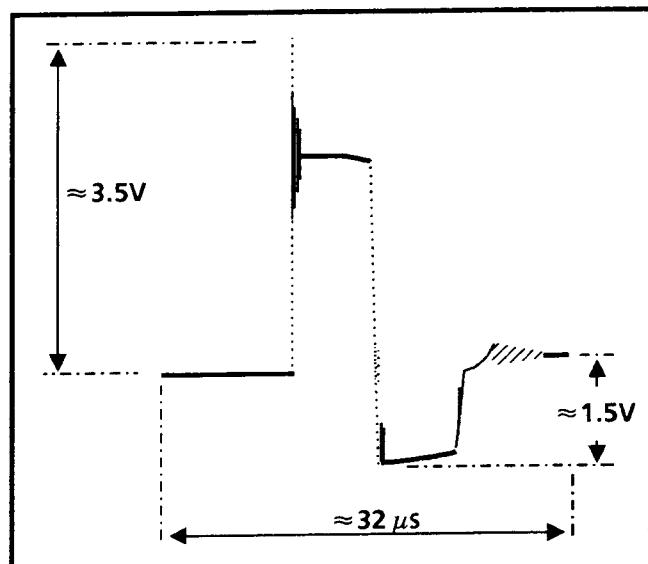

Fig. 6-6. Power supply base drive waveform.
14. **Check Base Drive:** Connect the test oscilloscope Channel 1 Vertical Input probe to the front end of R466 ( $15\Omega$ ) and the Channel 2 Vertical Input probe to the back end of R466. Invert Channel 2 and switch Vertical Mode to Add. Set the Variac to 130V. Ground test oscilloscope Vertical Inputs and center the crt trace. Waveshape should have a period of  $\approx 33 \mu s$  with a positive excursion of  $\approx +3$  V (excluding overshoot) and a negative excursion of -1.5 V. See Fig. 6-6.